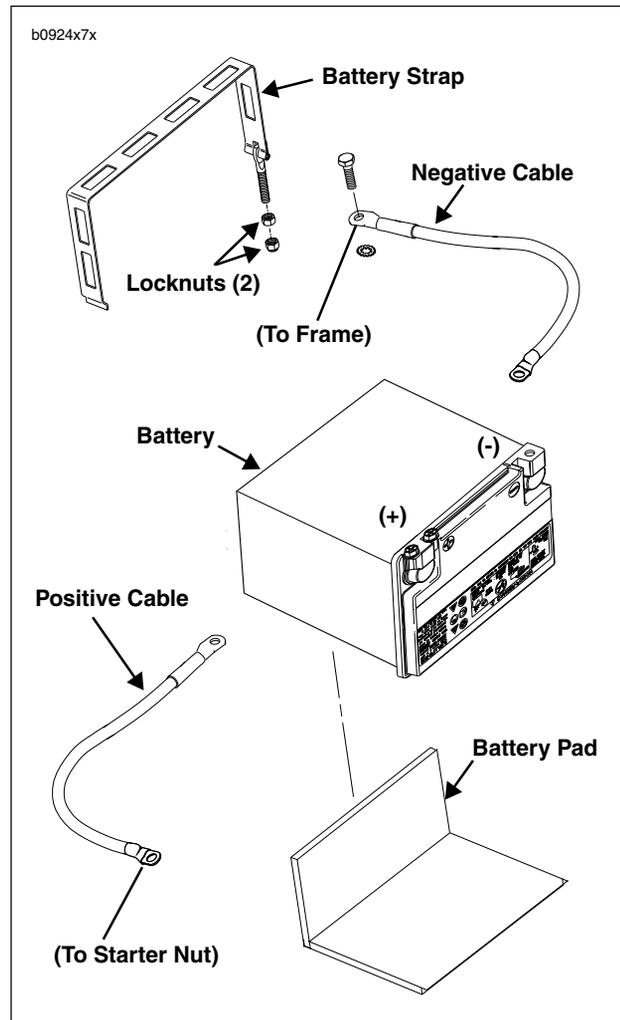

Figure 7-28. Battery
- See Figure 7-28. Disconnect negative and positive cables from battery, negative cable first.
- See Figure 7-28. Positive battery cable runs from starter to positive battery terminal.